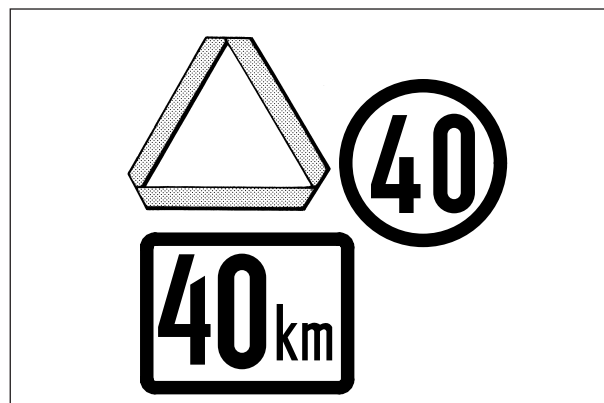

Fig.2-38 - Use the symbol in force in your country
- Make sure tractor and equipment are equipped with slow moving vehicle (SMV) signs or beacon if the law requires them (Fig.2-38 and 2-39).